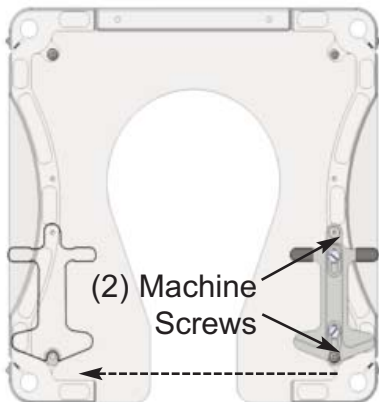

Figure 11
- 4) Reverse the release latch: Use the provided black L-Handle wrench to remove the latch by unscrewing the two machine screws, which attach it to the seat frame. Re-install the release latch on the opposite side of the seat frame (Refer to Figure 11).